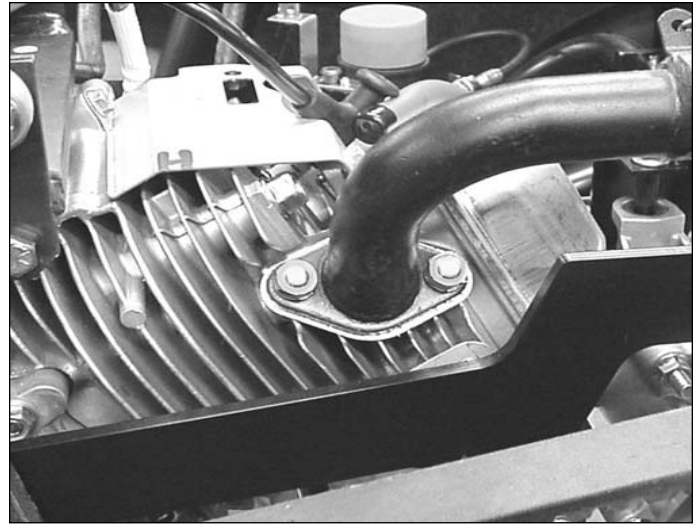

Figure 152 - Engine Exhaust Pipe Installation of Exhaust System
5. Remove two nuts and washers from engine exhaust pipe. Remove engine exhaust pipe and gasket. See Figure 152.
1. Install engine exhaust pipe to engine using new exhaust gasket. Torque nuts evenly to 175 in. lbs. (19.6 N.m.). See Figure 152.